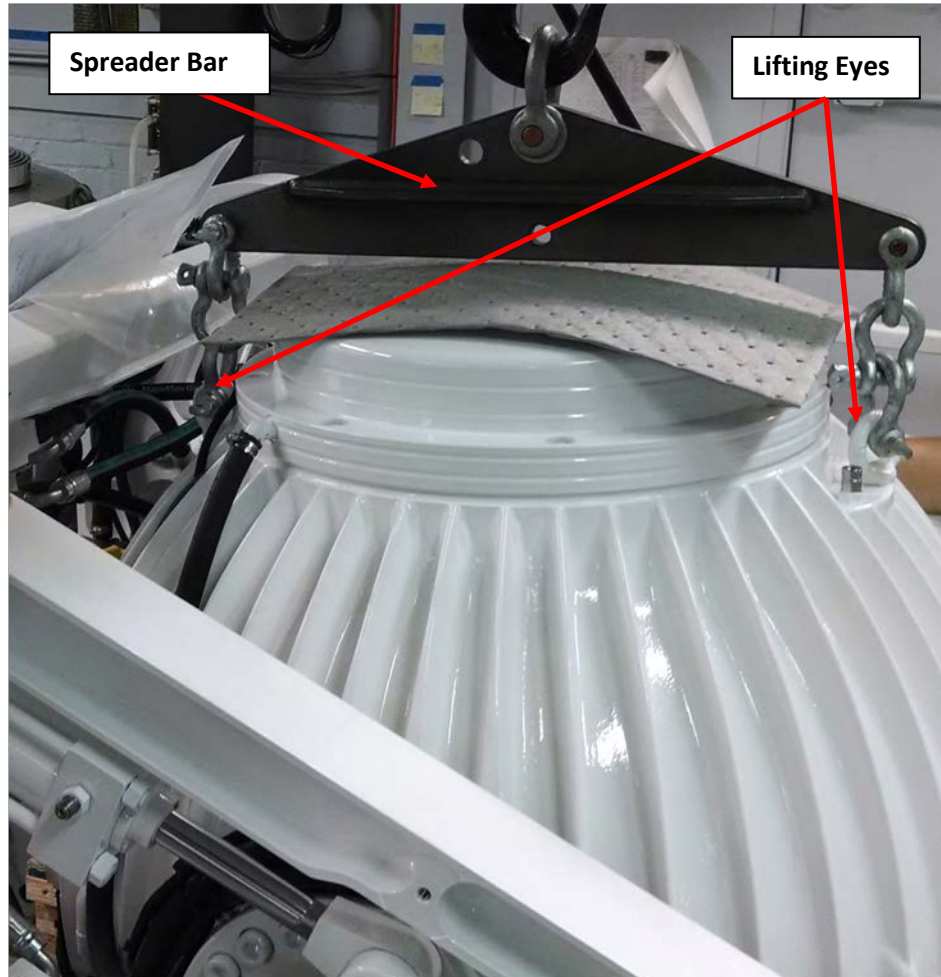

FIGURE 3 – LIFTING ARRANGEMENT
- 5) Attach spreader bar to the two lifting eyes located on the top of the gyro enclosure. Note spreader bar is not supplied with gyro. Stay clear of any other parts on the gyro. Gyro weighs 1,778 kg (3920 lbs). See Figure 3 below.